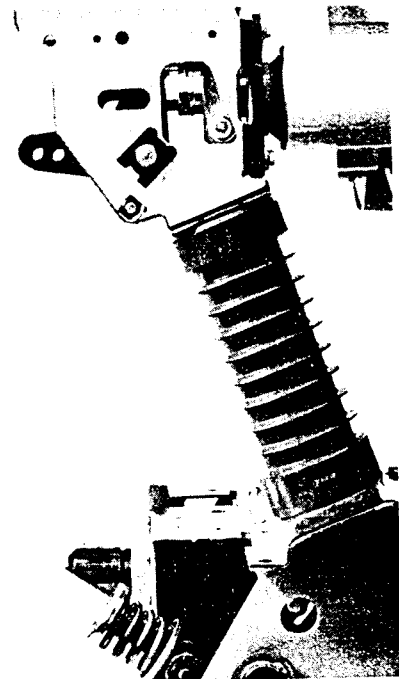

Figure 12. Procedure to Check Vacuum
- A) Isolate and open the breaker then detach the insulated coupler 48 from lever 48.6. See Figure 12.
- B) The atmosphere pressure will force the moving contact of a hermetically sealed interrupter into the closed position, causing lever 48.6 to move into the position shown in Figure 12. An interrupter that has lost its vacuum will not move closed after being forced open.